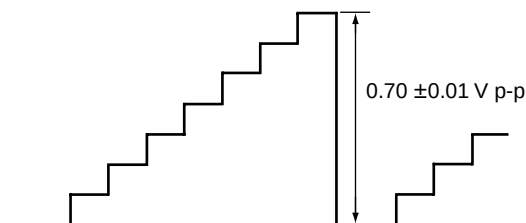

Fig. 3-7
- Observe the TP2: BR board (G OUT) using an oscilloscope, and adjust the SUB CONTRAST so that the signal level will be $0.70 \text{ V} \pm 0.01 \text{ V p-p}$. (Fig. 3-7)